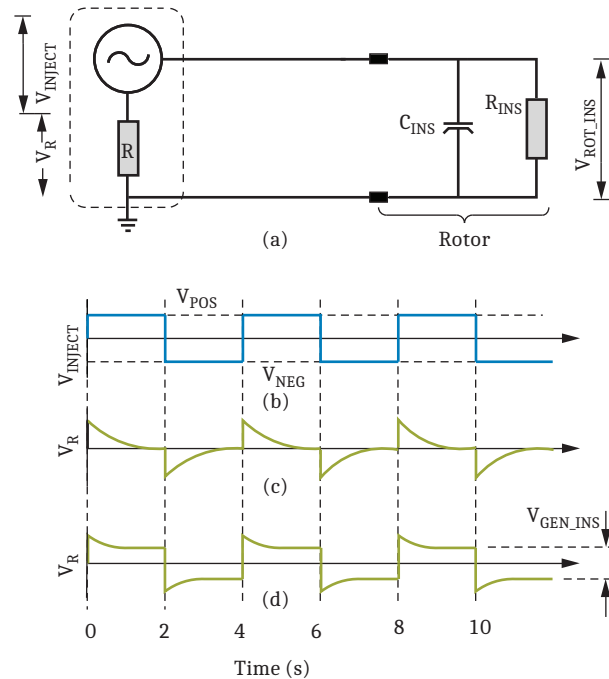

Figure 15 SEL-2664 Circuit Diagram (a); Injected Voltage and Current (b-d)
The equivalent circuit of the SEL-2664 and the generator rotor field is as shown in *Figure 15(a)*. The SEL-2664 applies a pulsating voltage (V_{INJECT}) to the generator field and measures the magnitude of the voltage drop across an internal resistor to ground (R), as shown in *Figure 15(b)*. When the rotor insulation is normal or healthy, the major portion (>95 percent) of the injected voltage is dropped across the rotor insulation (V_{ROT_INS}) and very little voltage is dropped across the resistor internal (V_R) to the SEL-2664, *Figure 15(c)*. When the rotor field experiences a ground fault, the major portion of the injected voltage is dropped across the internal resistor, as shown in *Figure 15(d)*.